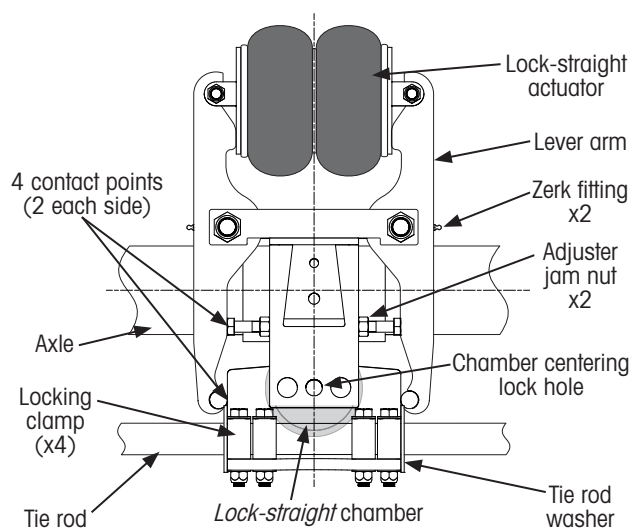

Figure 29: Self-steer axle lock-straight mechanism (bottom view)
During alignment or adjustment of the self-steer axle, the lock-straight assembly (Figure 29) is used to lock the tie rod in the center position while the wheels are checked and/or adjusted to point straight forward on the trailer, with toe.
- B. Component **wear** at the four lever arm contact points (Figure 29) and pivot points.